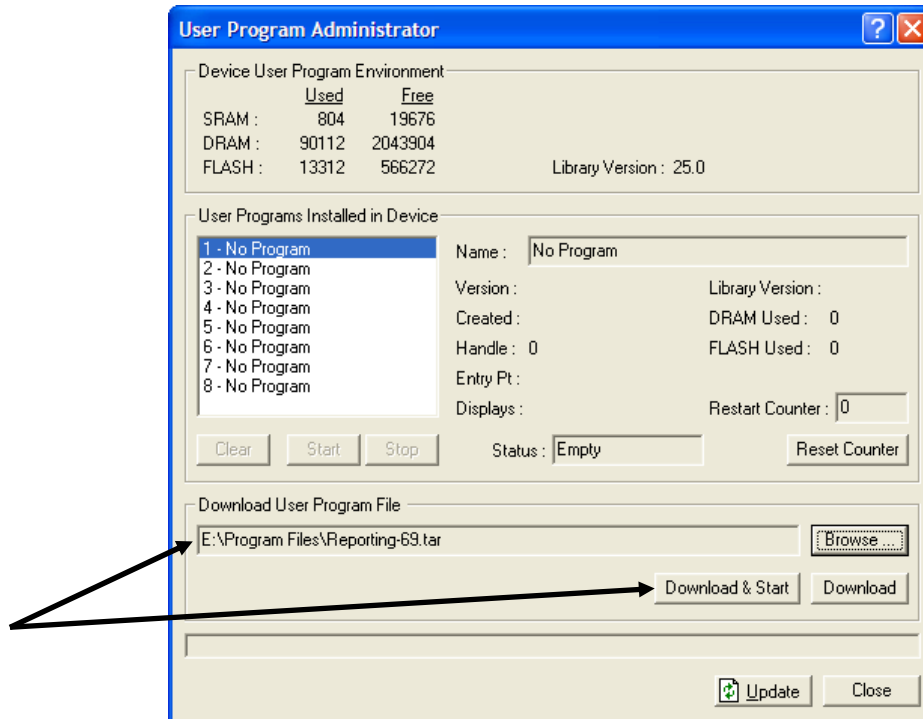

Figure 6. User Program Administrator
4. Click **Open** to select the program file. The User Program Administrator screen displays. As shown in *Figure 6*, note that the Download User Program File frame identifies the selected program and that the **Download & Start** button is active: